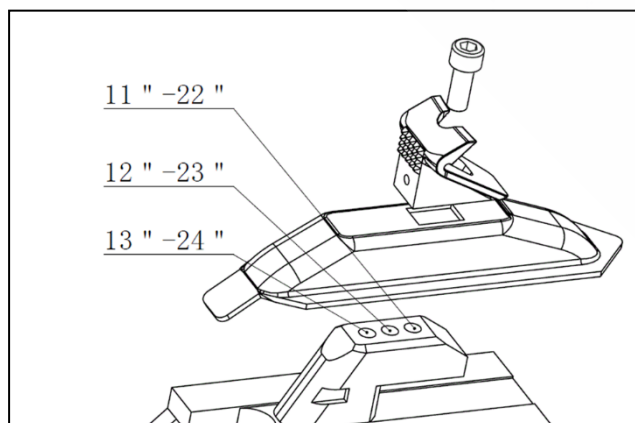

FIG1
- Like showing in FIG1, the model 889N/GT889N machine equips the adjustable turntable. The default setting is at the second gear when leaves factory. The operator can adjust the different gear according to the FIG1 showing in order to mount and demount kinds of rims. (note: the FIG1 shows the outward clamp range and must change the four clamp at the same time when change the gear)